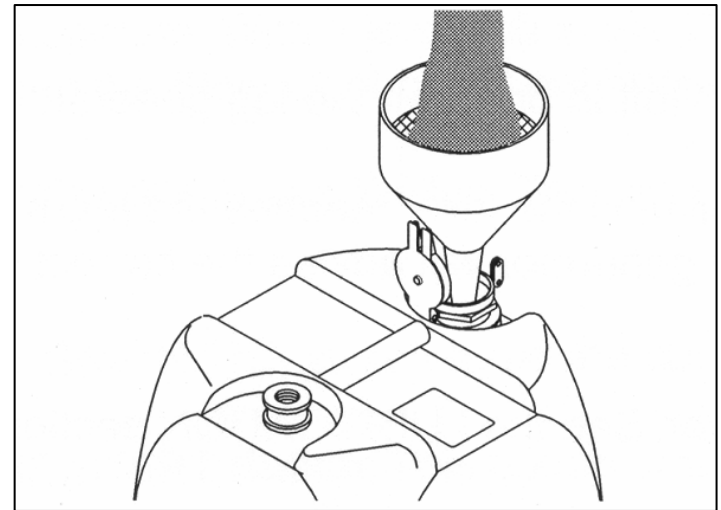

Fig. 58. Adding pesticide.
- 12. Add the proper amount of pesticide to the 15 gallon, black polyethylene tank located between the engine and gas tank, (Fig. 58) (Remember to use ULV/ULD machine labeled concentrates ONLY).